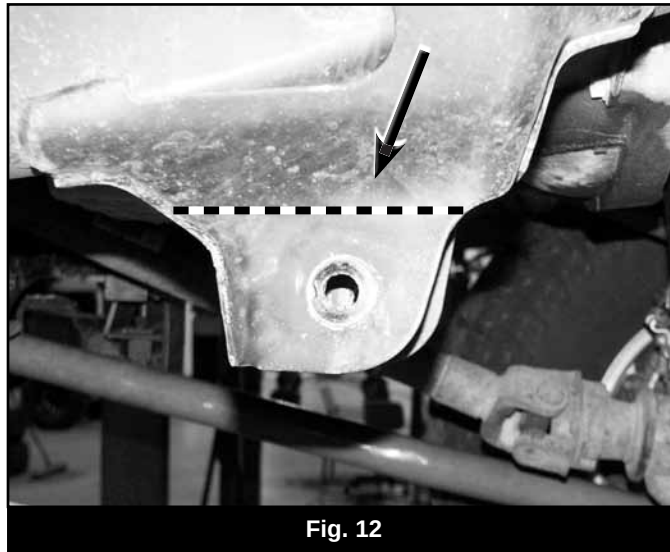

Fig. 12
44. Mark the original lower control arm frame brackets to be trimmed as shown (Fig 12). Cut the brackets off the frame with a sawzall, cut-off wheel, or plasma cutter. Paint all bare metal to prevent corrosion.